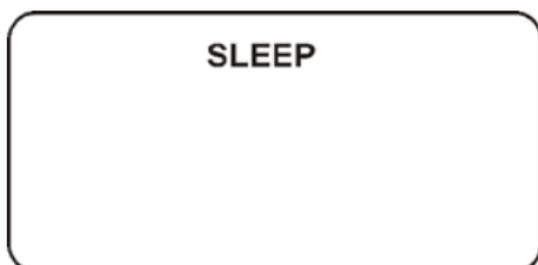

Figure 9 The Unit is Asleep
- You'll see the **SLEEP** indicator at the top of the screen (Figure 9)